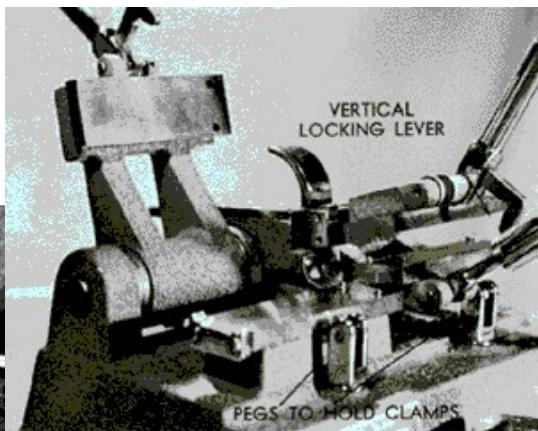
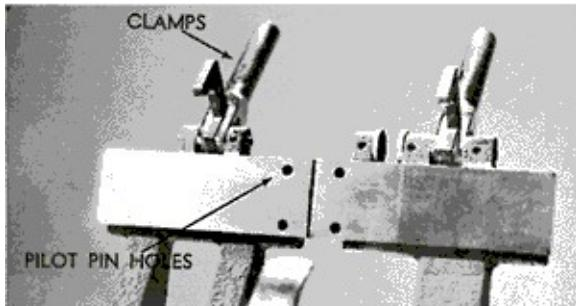

Figure 2
Figure 4
The demonstration splicer (Fig. 2) consists of four major sections:
- The locking clamps - one on each upper blade (Figure 4) and one vertical locking lever on the lower right blade only (Figure 2). Locate these parts on your splicer. Move the blades up and down and lock the clamps to see how they work. As you move the blades, lower them into closed position and lock the clamps. The clamps, when properly set, fit into the slotted pegs as either side of the splicer (Fig. 2) to hold the film in place.